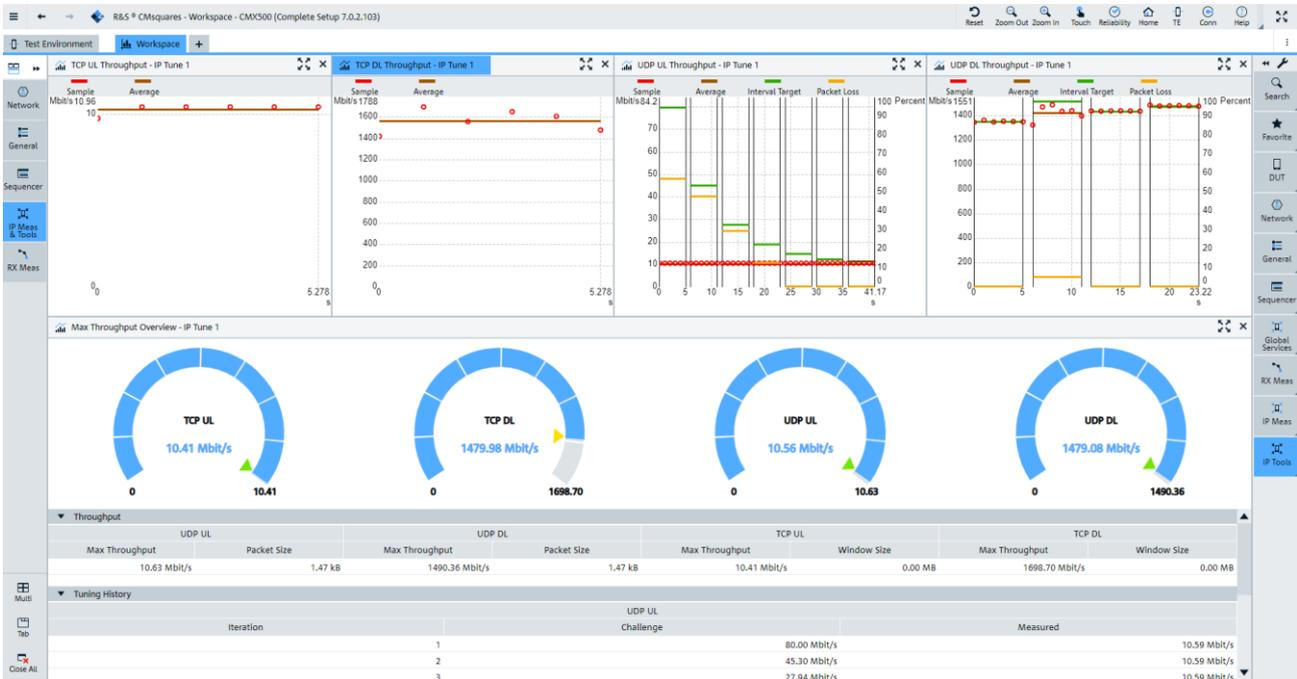

Figure 73 Example of IP Tune results
4. Read the tuning results. An example of results is shown in Figure 73.